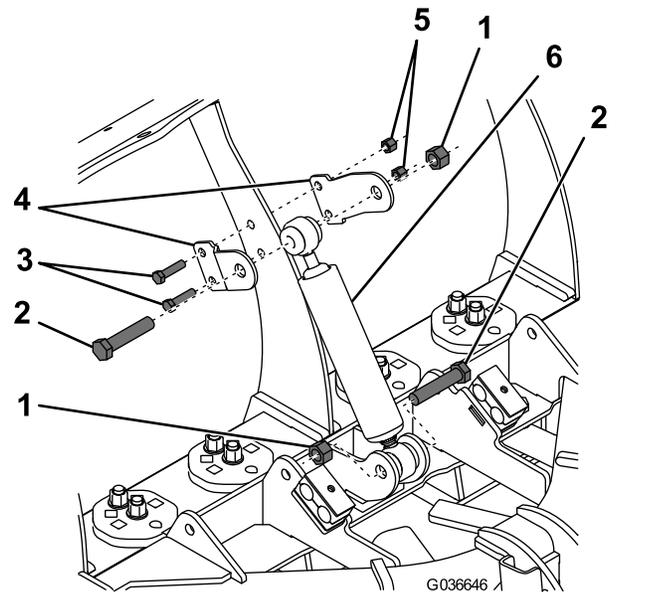

Figure 3
3. Secure the end of the shock absorber to the push-frame assembly using a bolt (5/8 inch) and locknut as shown in Figure 3.
4. Attach the blade shock-mount to the top of the shock absorber using a bolt (5/8 inch) and locknut as shown in Figure 3.
5. Slot the blade shock-mount onto the center rib of the plow and secure it using 2 bolts ($3/8 \times 1-1/2$ inches) and locknuts (Figure 3).
6. Extend the shock absorber so that 6 mm ($1/4$ inch) of the rod is visible (Figure 3).